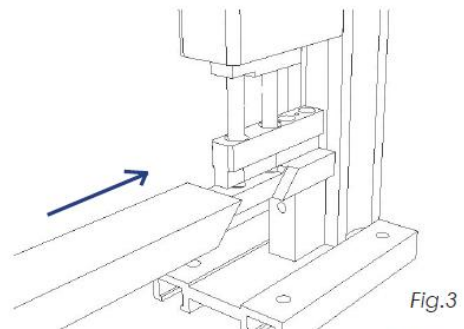

Fig.3
3. Insert the aluminum profile on the side that needs to be cut, with the profile's side to be punched adjusted to the die. Figure 3